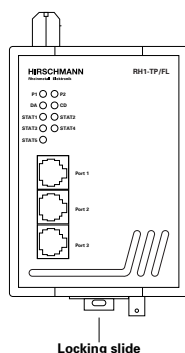

Fig. 6: Dismantling the RH1-TP/FL
- Suspend the upper snap-in hook of the RH1-TP/FL in the ISO/DIN rail, insert a screwdriver horizontally under the housing into the locking slide pull this downwards (cf. Fig. 6, dismantling) and press the bottom of the module onto the ISO/
To take the RH1-TP/FL off the ISO/DIN rail, insert a screwdriver horizontally under the housing into the locking slide, pull it (without tipping the screwdriver) downwards and fold the RH1-TP/FL upwards (Fig. 6).